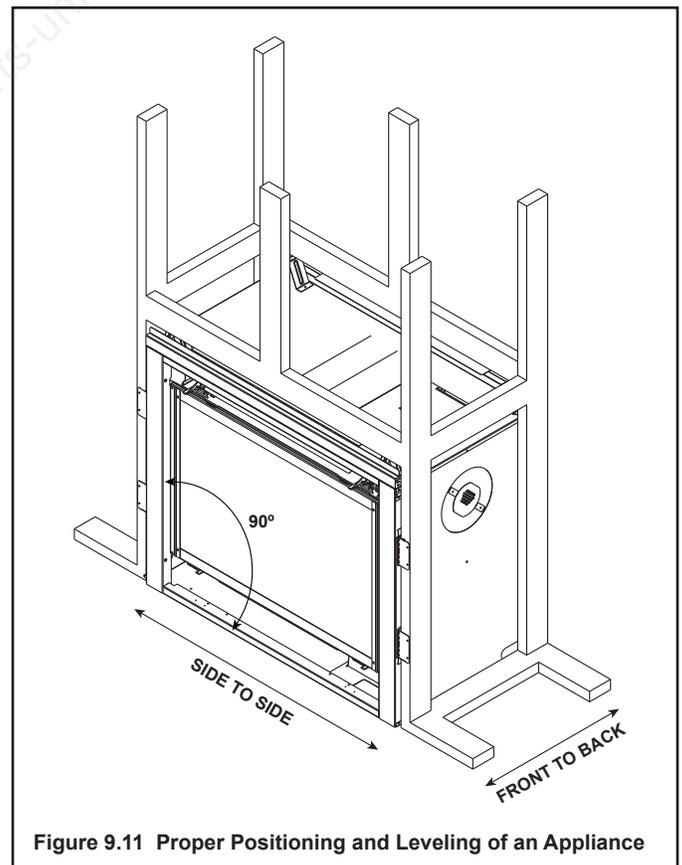

Figure 9.11 Proper Positioning and Leveling of an Appliance
6. Using a framing square, make sure that the sides of the appliance are square to the bottom as shown in Figure 9.11.